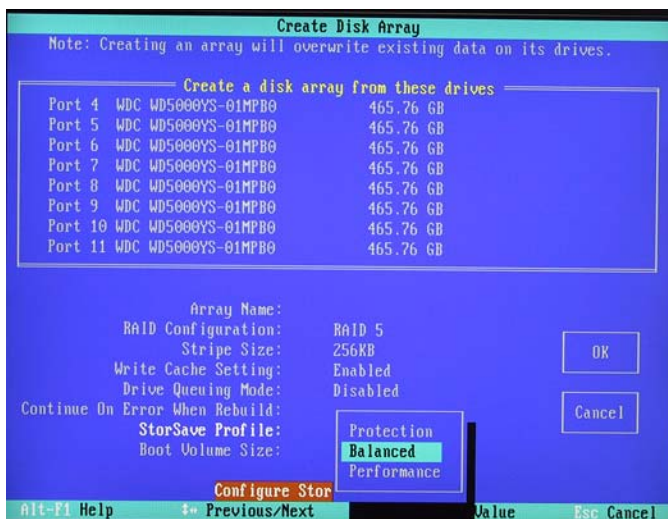

Figure 6-13
- 15) Use the up/down arrow keys to highlight the **StorSave Profile** item, and then press the <Enter> key to access an associated pop-up dialog (Figure 6-13).
- 16) Use the up/down arrow keys to highlight the **Balanced** option (Figure 6-13), and then press the <Enter> key to select this option.